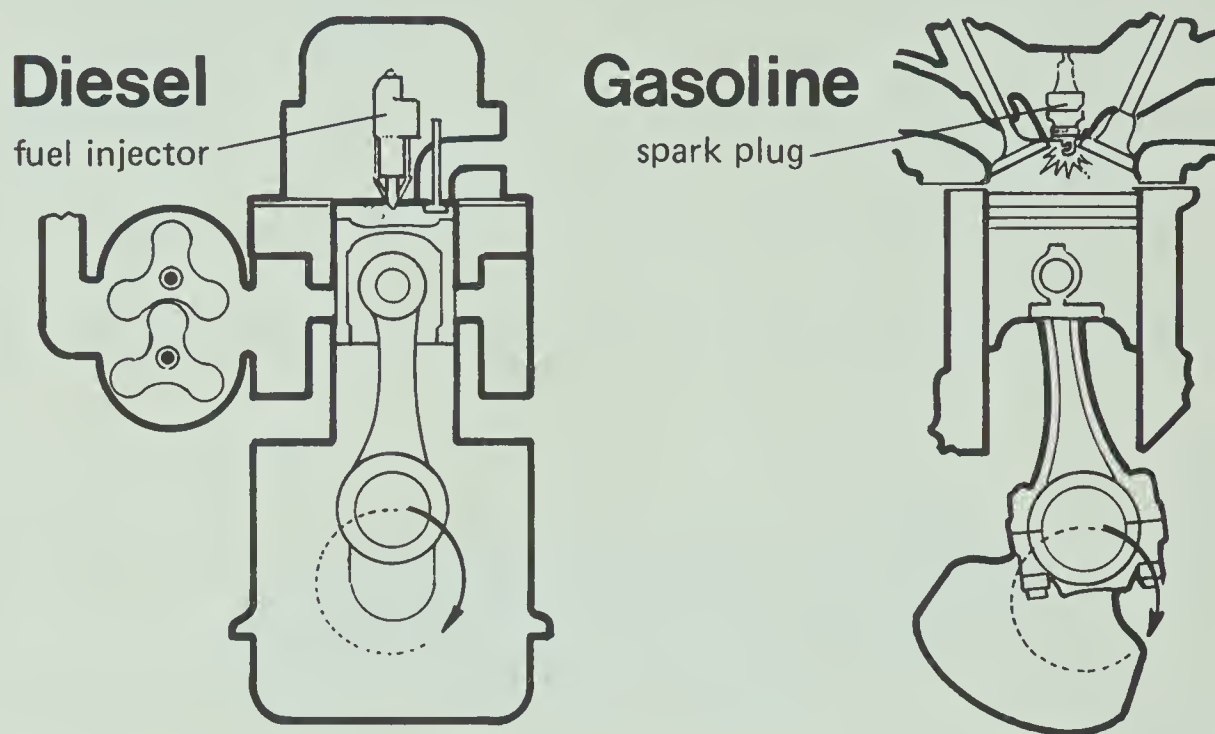

Figure 13-1
- 13-1. Look at Figure 13-1 above. What common part does a gasoline engine use to ignite the fuel–air mixture that is lacking in the diesel engine?